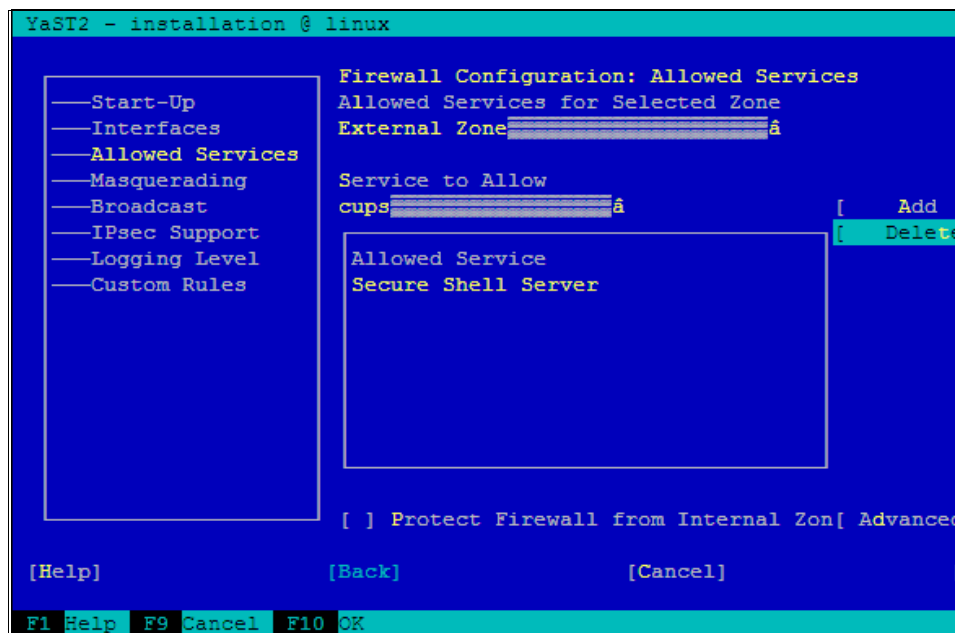

Figure 9-31 Allowed Service Secure Shell Server (SSH)
- e. SSH will appear in the **Allowed Service** list, as shown in Figure 9-31 on page 390. Press **[Next]** to confirm.